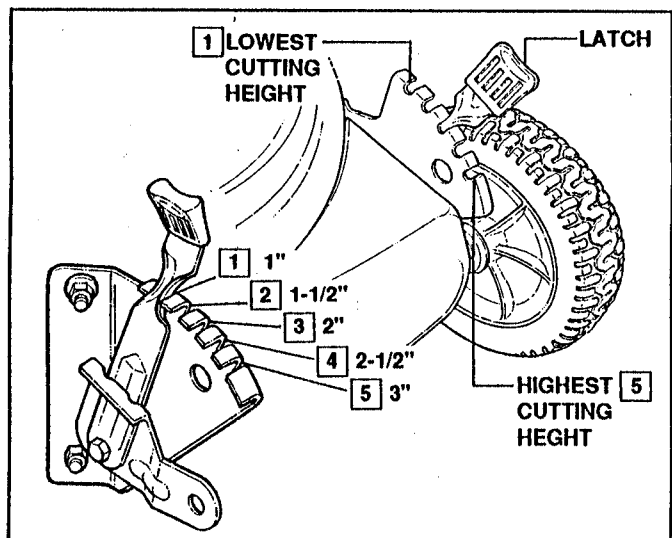

FIGURE 2.5
- Pull the height adjusting latch outward towards the wheel and move to desired notch. See Figure 2.5.